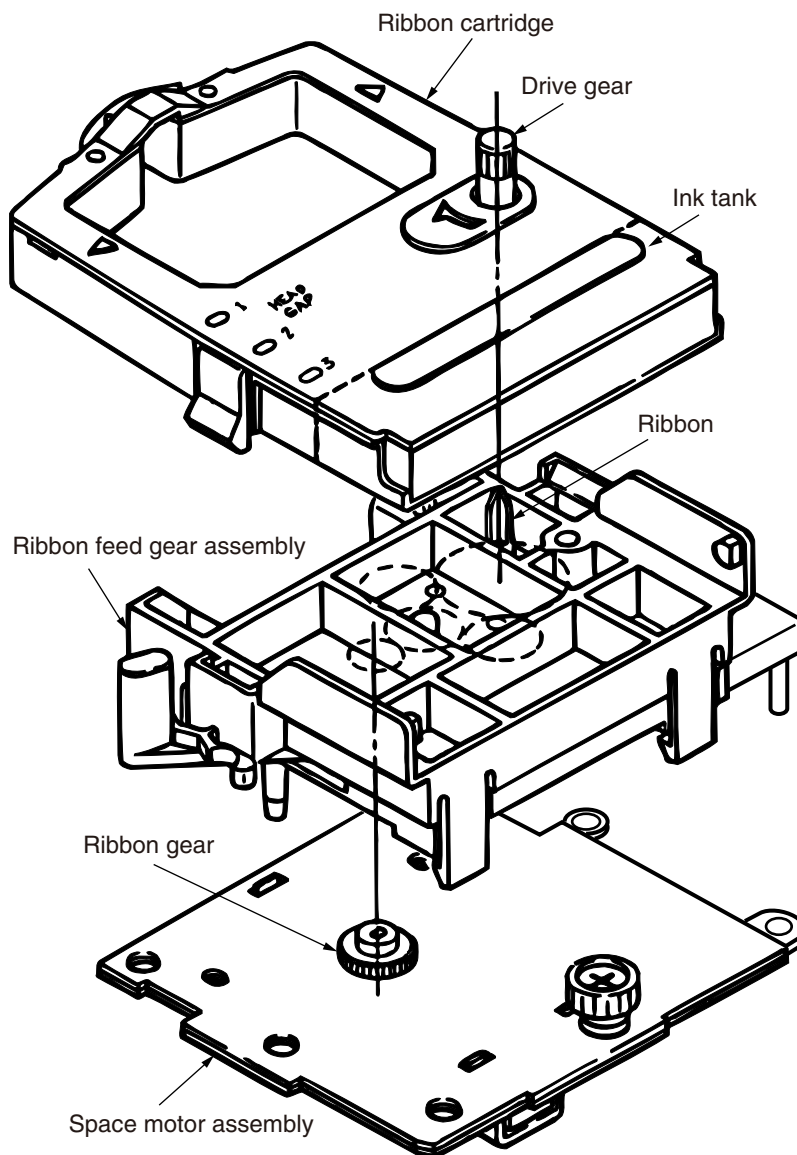

Figure 6
2.2.4 Ribbon Feed Mechanism and Operation (See figure 6)